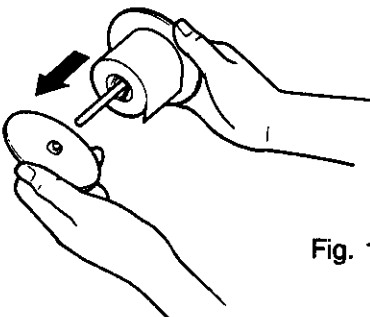

Fig. 10
3. The wound-up portion of the paper can easily be removed from the Reel by pulling it sideways. (Fig. 10)